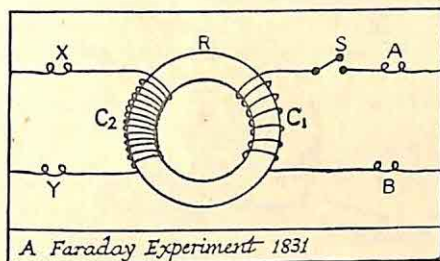

Fig. 48
59. Use an electro-magnet to produce an electric current. (See fig. 48.)